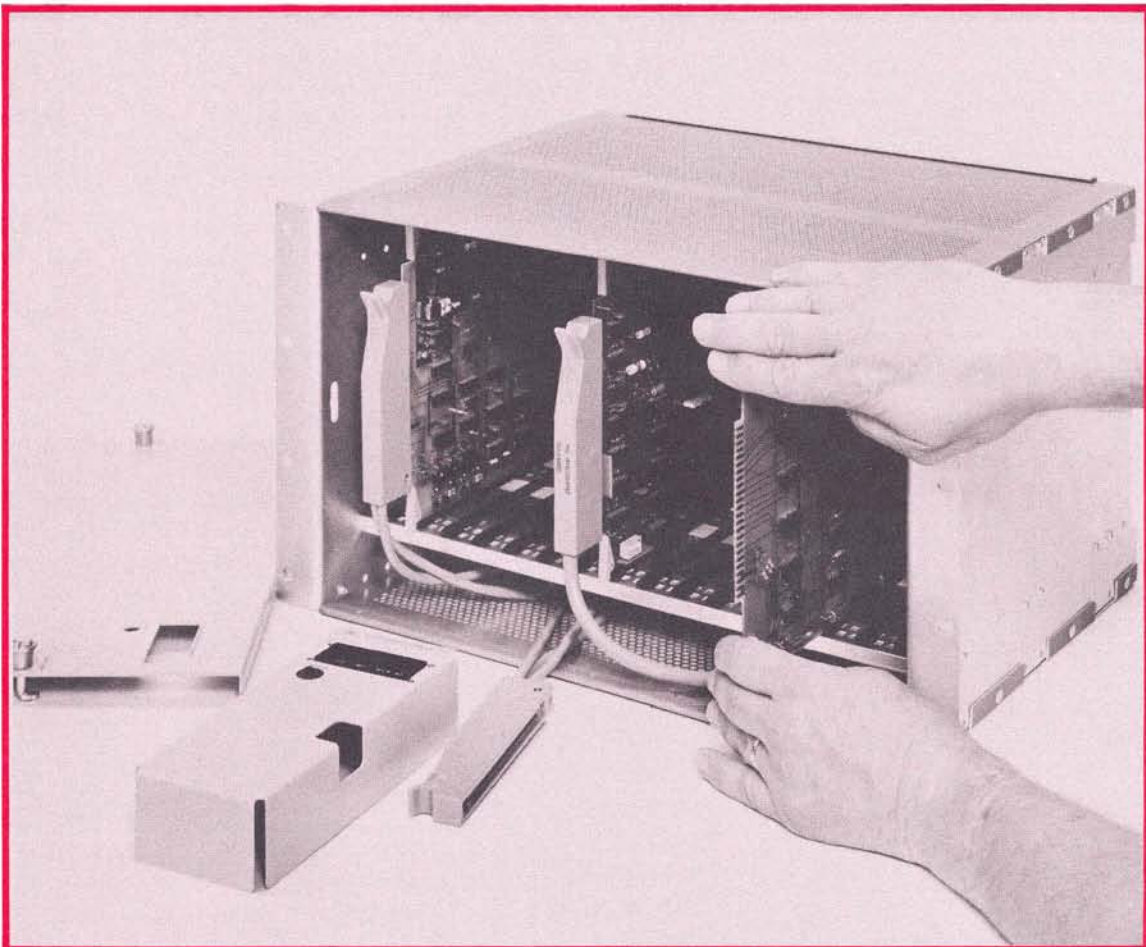

Figure 5-5. Installation of Hooded Connectors and Circuit Cards
To connect any hooded connector to a circuit card in the 10740A Coupler, pass the connector through the slot in the rear panel of the coupler and install it on the front edge connector of the applicable card (see *Figure 5-5*).
- h. Install all cards in the 10740A Coupler (see *Figure 5-5*). Be certain that the 10760A Counter cards are in the proper order.
- h. Install all cards in the 10740A Coupler (see *Figure 5-5*). Be certain that if more than one 10764B Fast Pulse Converter card is used, they are installed in the proper order.